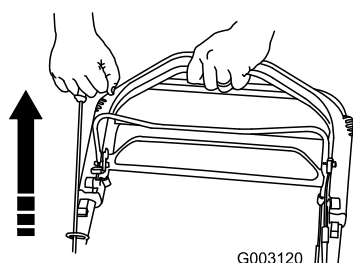

Figure 16
- Pull the recoil starter in the operating position (Figure 16).